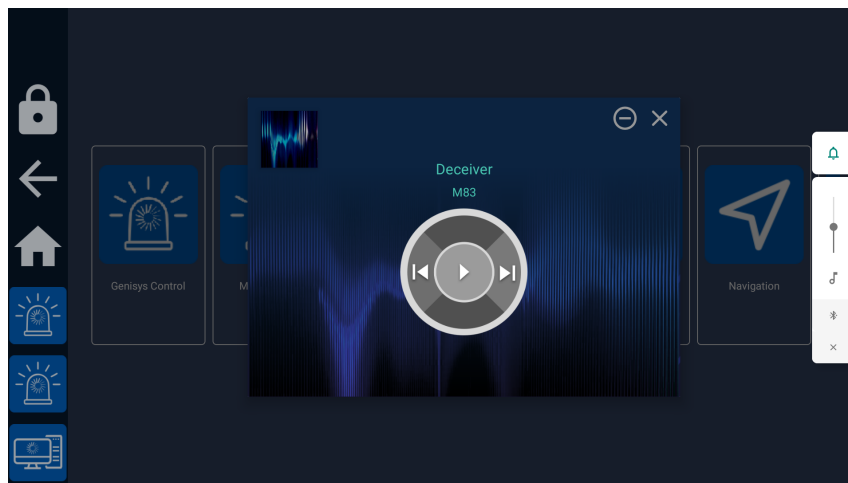

Figure 24: The Full-screen media player
- Full-screen mode: Where the media player covers most of the screen, see Figure 24.